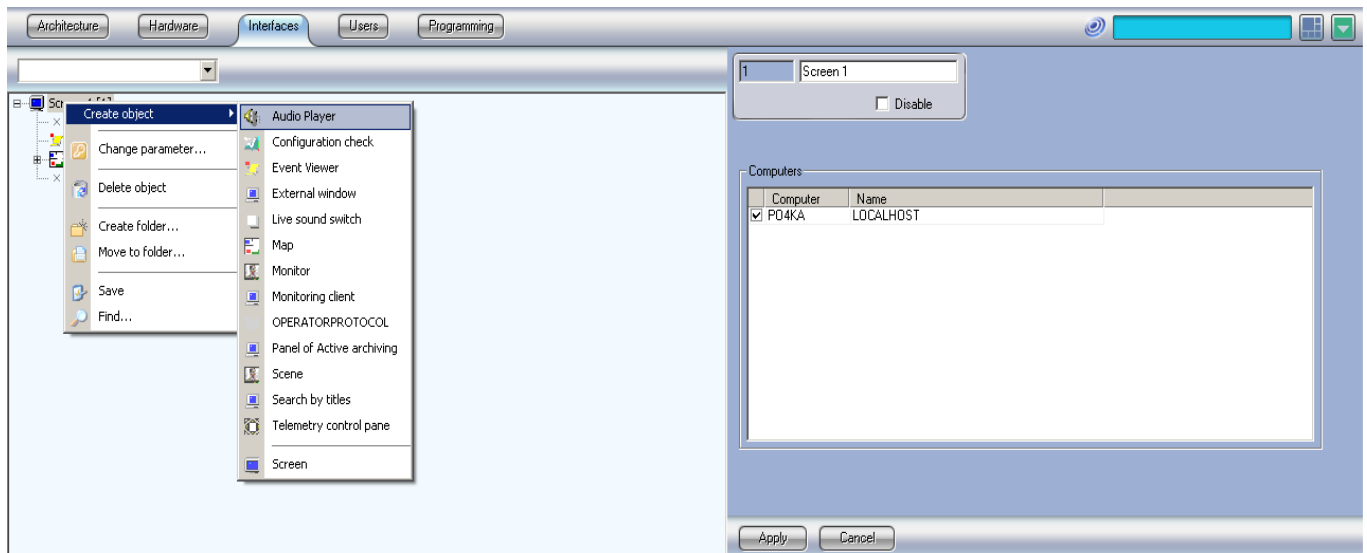

fig. 46
- Create the “Audio player” object in the Interface tab (fig. 46);